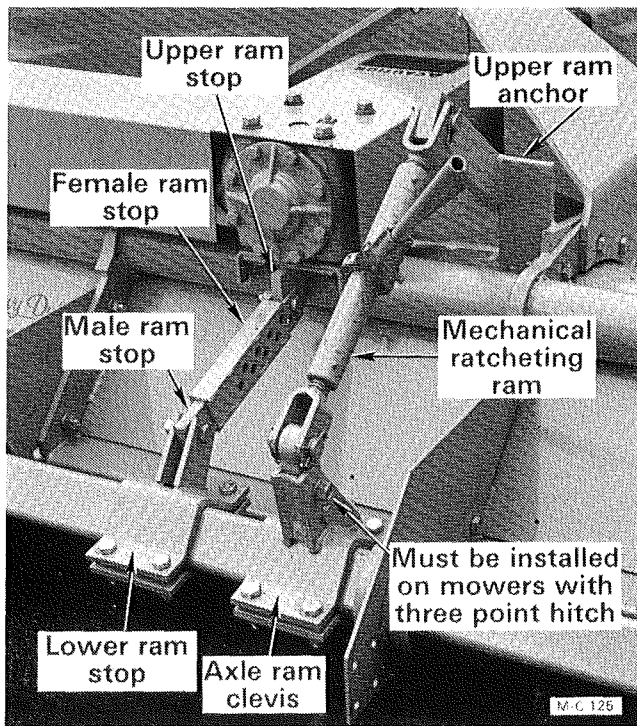

Figure 9
5. Remove the two capscrews, hex-nuts and lockwashers from the right pole support angle or the two top capscrews from the three point hitch right "A" frame bracket. Install the upper ram anchor on the inside of the front rib, see Figure 9. Use a $\frac{5}{8}$ -11 x 2" (Grade 5) hex-head capscrew in the top hole and two $\frac{5}{8}$ -11 x $2\frac{1}{2}$ " (Grade 5) hex-head capscrews in the other two holes. Secure with lockwashers and hex-nuts.
6. Mount the axle ram clevis on the axle so it aligns with the upper ram anchor, see Figure 9. Install a mechanical ratcheting or hydraulic ram (to be supplied by the customer). A mechanical ratcheting ram is available, order M-C Part No. 001 8985.
7. Remove the plate under the gear box and replace it with the upper ram stop, see Figure 9.
8. Install the lower ram stop. Be sure it is aligned with the upper ram stop. Install the female and male ram stops as shown in Figure 9. Secure them with $\frac{5}{8}$ -11 x 2 $\frac{1}{2}$ " (Grade 5) hex-head capscrews, lockwashers and hex-nuts.
IMPORTANT: On lift type mowers secure the axle ram clevis floating link so that the axle cannot rotate when the mower is lifted. Use a $\frac{5}{8}$ -11 x 2 $\frac{1}{2}$ " (Grade 5) hex-head capscrew, lockwasher and hex nut, see Figure 9.